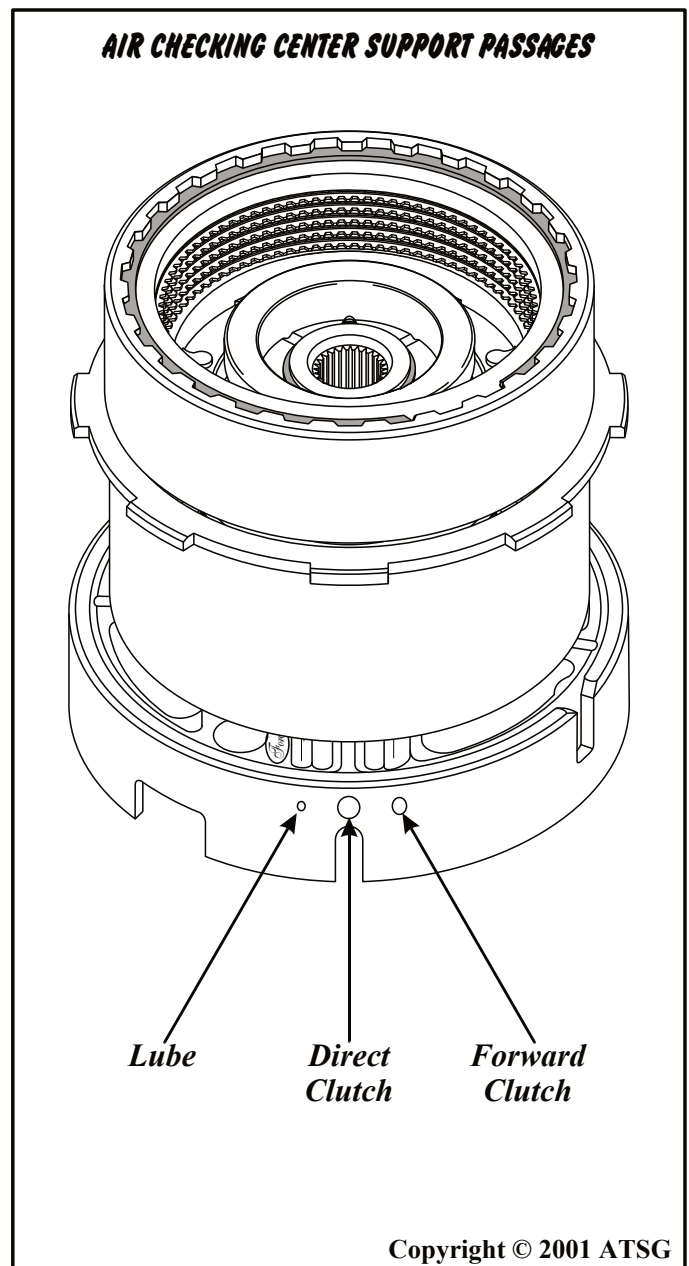

Figure 94
6. The ***only positive way*** to verify the integrity of the center support, is to assemble the forward and direct clutch housings, with the appropriate thrust bearings, onto the support, as shown in Figure 94.